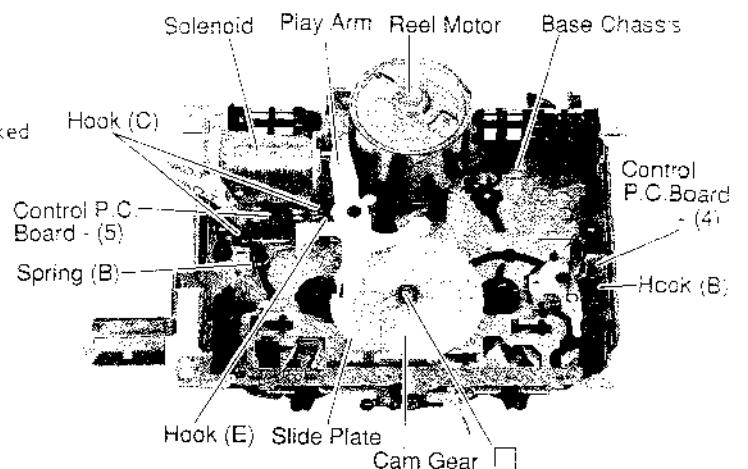

Figure 15
- (2) Remove the Hook (B) as shown in Figure 15.
- (1) After removal of two Flywheels, remove two Hook (C) as shown in Figure 15.
- (3) Remove a Spring (B) as shown in Figure 15.
- (4) Remove the Play Arm by removing a Hook (C) as shown in Figure 15.
- (5) Remove the Slide Plate with Cam Gear as shown in Figure 15.